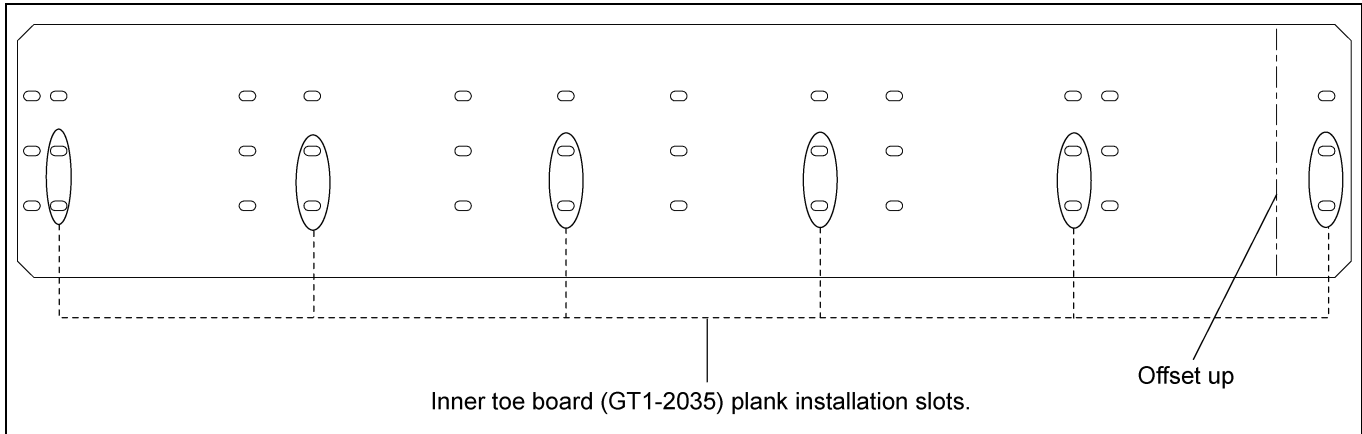

Figure 6N 18' Inner Toe Board (GT1-2035)
NOTE: Make sure the planks are aligned to right slots as marked in Figure 6N on Page 48.
2. Inner toe board (GT1-2035) is arranged with many slots to install plank. Install offset and roof hatch planks to corresponding slots as shown in Figure 6N.